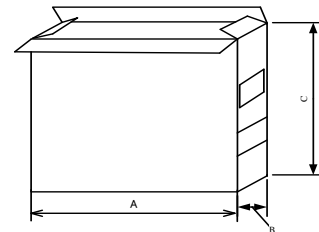

Fig.8.2.3-3
- a). Inner box please refers to Fig.8.2.3-3and Table 8.2.3-1
- b). Marking Label on inner box(see Fig.8.2.3-4)
3)Marking on outer case (see Fig.8.2.3-5~7):